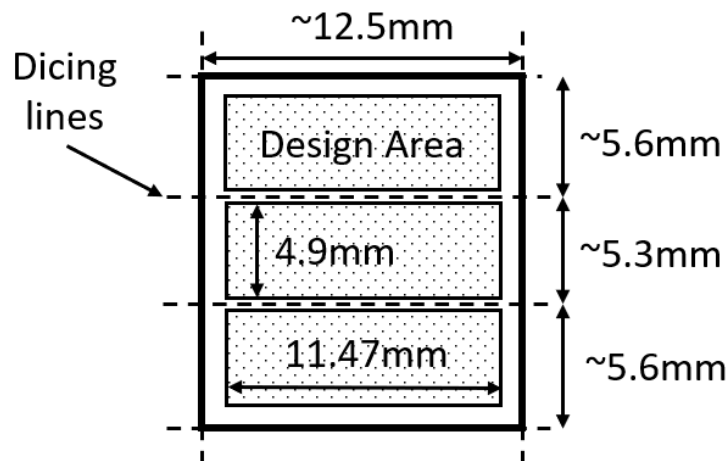

Figure 1– Physical die dimensions
The physical size of the dies you will receive is approximately $5.3\text{-}5.6\text{ x }12.5\text{ mm}^2$. This area includes a border the CORNERSTONE team will add that contains alignment marks, metrology boxes etc. which surround 3x design areas from various CORNERSTONE users, as shown in Figure 1. If you require specific physical die dimensions ($5.3\text{ x }12.5\text{ mm}^2$ or $5.6\text{ x }12.5\text{ mm}^2$), for example if integration to a PCB is required, please specify the physical die dimensions you require in the online mask submission form you are required to complete as part of the submission process (see Section 8).
- Width of the supporting structure/subwavelength structure <6 µm have proven to work (see Figure 1). **If you try more challenging dimensions, do so at your own risk.**
^ªWidth of the supporting structure/subwavelength structure <6 µm have proven to work (see Figure 1). **If you try more challenging dimensions, do so at your own risk.**